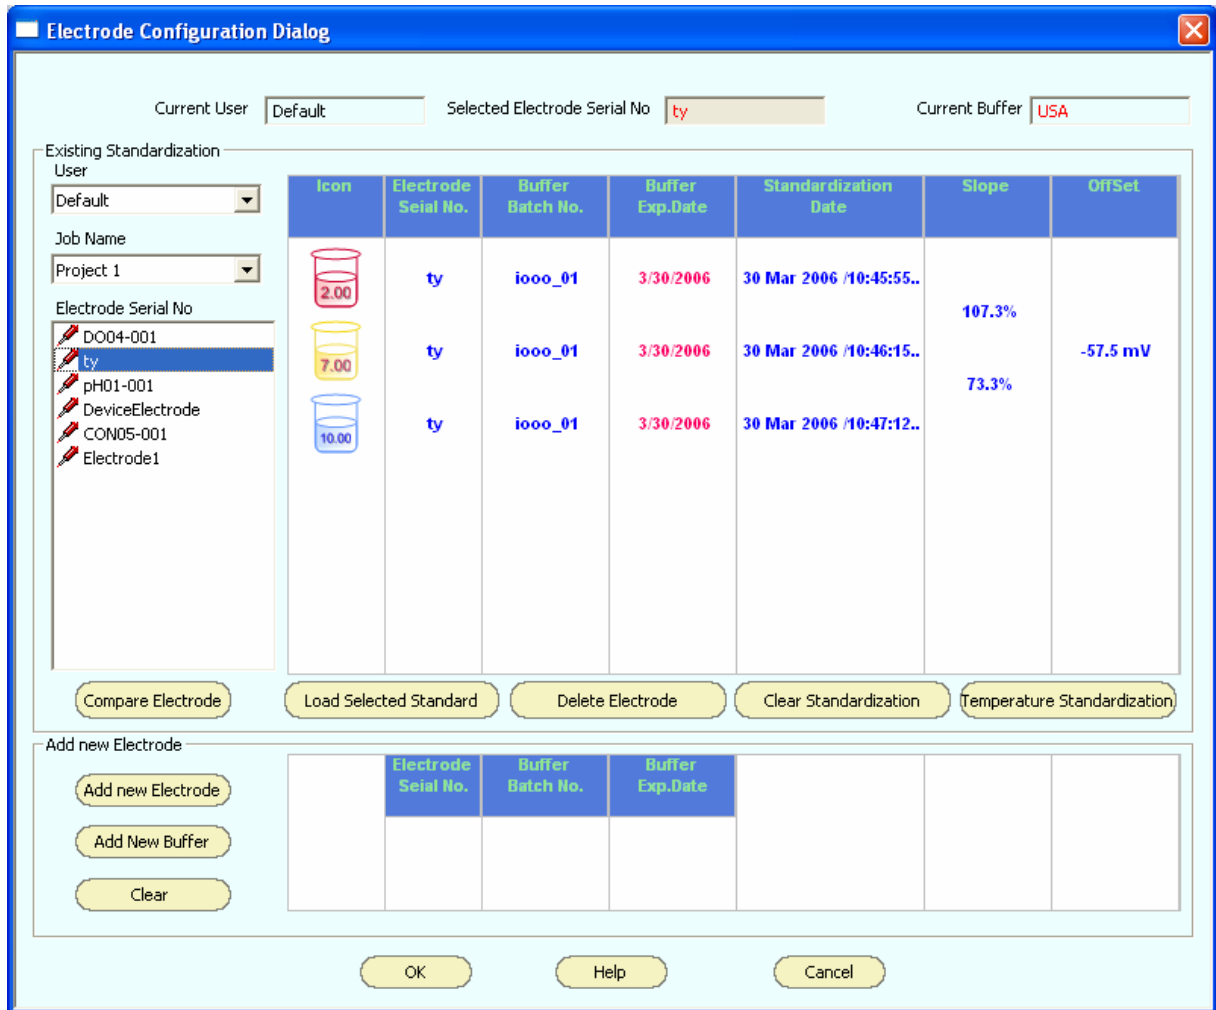

Figure 24 : Selecting existing standardization available in CyberComm
5. **Electrode Configuration Dialog** appears. (Figure 24)